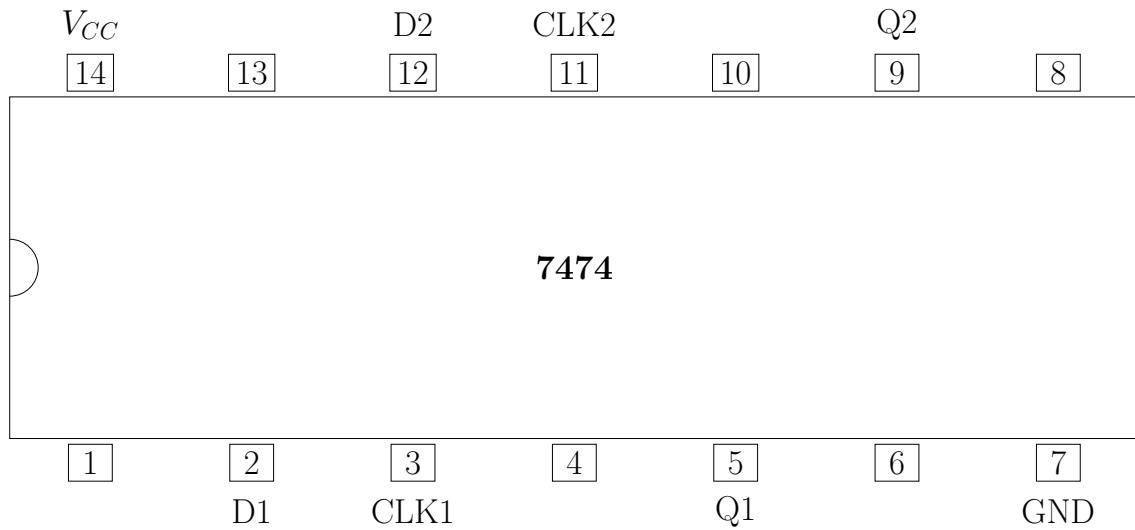

Figure 5.1:
2. Connect the Arduino, 7447 and the two 7474 ICs according to Table 5.2 and Fig. 5.1.
The pin diagram for 7474 is available in Fig. 5.1